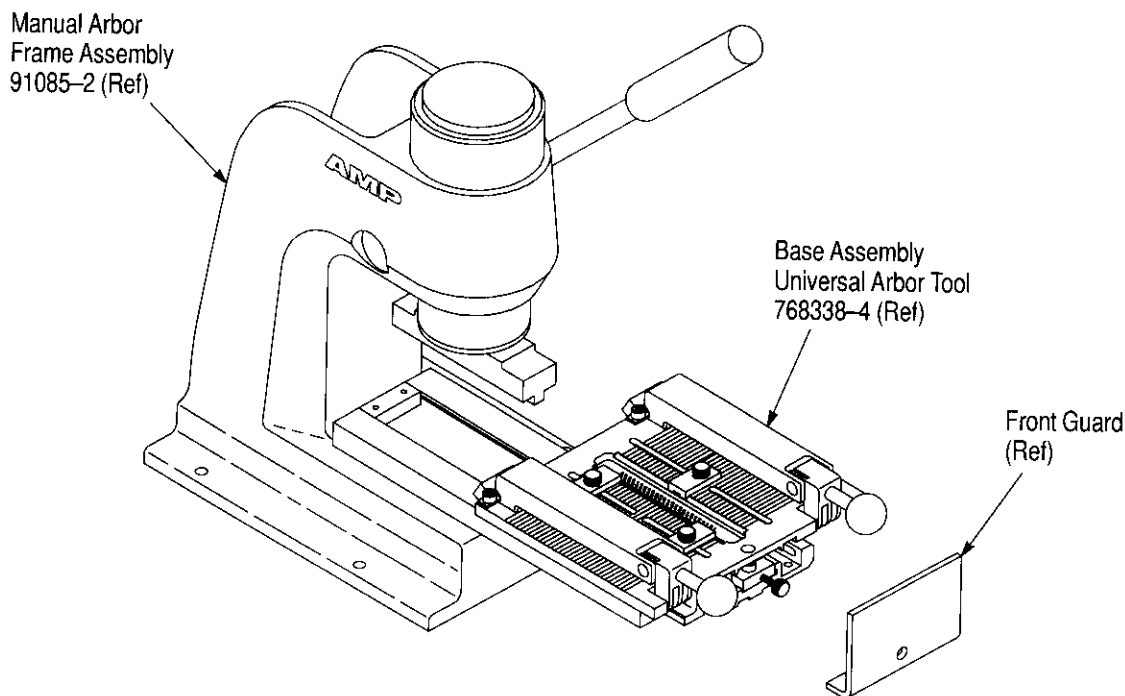

Figure 1
This instruction sheet covers the installation and setup procedures for AMP* Connector-Specific Kit 679073-1. The connector-specific kit is used in conjunction with Base Assembly Universal Arbor Tool 768338-4 and AMP Manual Arbor Frame Assembly 91085-2 (see Figure 1), or AMP Pneumatic Auto-Cycle Unit 91112-3 to terminate AMP-LATCH System 50 Paddleboard Connectors to 0.64 [.025] centerline ribbon cable with solid 30 AWG or stranded 32 AWG cable conductors.
2. DESCRIPTION (Figure 1)